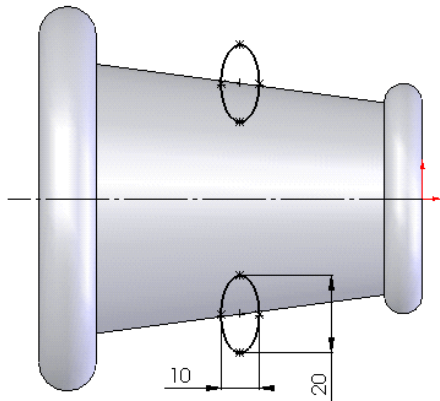

Figure 15-100 Sketch of the second surface feature
- Create the second feature, which is an extruded surface feature located at the sides of the base feature, refer to Figures 15-100 and 15-101.
2. Create the sketch of the second surface feature as shown in Figure 15-100. You may have to apply **Horizontal** or **Vertical** relations between the points of the ellipse.